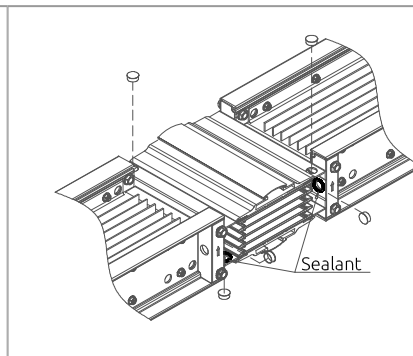

Figure 10.2
2. Remove all hole plug from end block and alu 'S', apply sealant around (inner side of busway joint) all the hole except top side of alu 'S' (See Figure 10.2)
3. Plug the hole plug for all end block and bottom alu 'S' as per Figure 10.2 into inner side of busway joint.